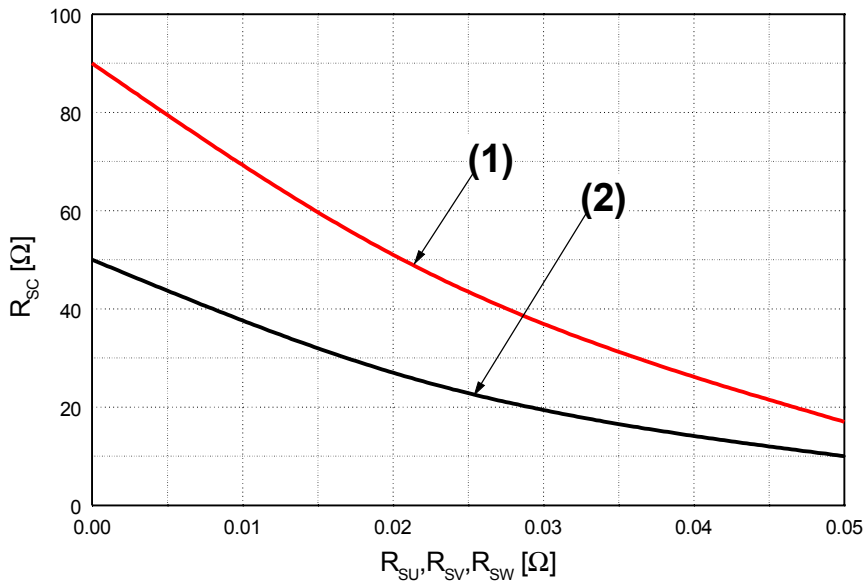

Fig. 7. R_{SC} Variation by change of Shunt Resistors (R_{SU}, R_{SV}, R_{SW}) for Short-Circuit Protection
- Short-circuit current protection is functioning only at the low-sides. It would be recommended that the value of the external sensing resistor (R_{SC}) should be selected around 50 Ω in order to make the SC trip-level of about 45A at the shunt resistors (R_{SU}, R_{SV}, R_{SW}) of 0Ω. For the detailed information about the relationship between the external sensing resistor (R_{SC}) and the shunt resistors (R_{SU}, R_{SV}, R_{SW}), please see Fig. 7.